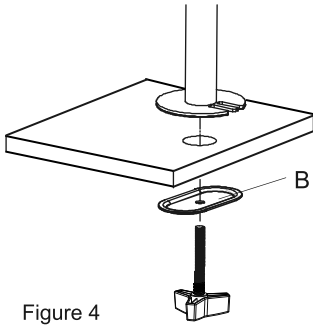

Figure 4
4. Position the pole (a) on the mounting surface and secure using the support plate (B), see Figure 4.